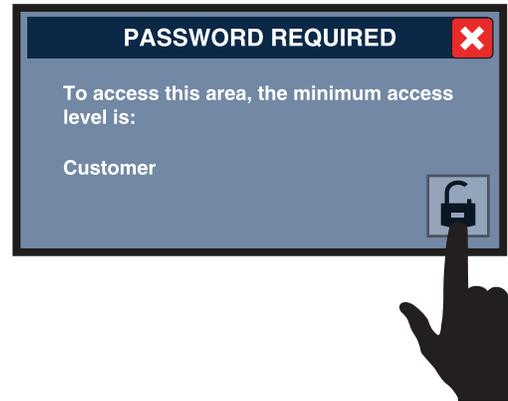

Figure 101. Password Required Screen
- Verify that the **Password Required** screen is displayed (Figure 101), then press the **Unlock** button.